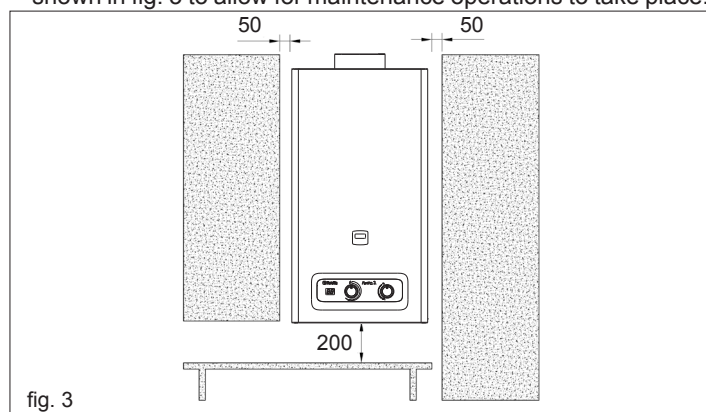

fig. 3
- It is vital to leave the minimal distances around the device as shown in fig. 3 to allow for maintenance operations to take place.
- The water heater must not be tightly placed in an enclosure or slot, it should have an adequate flow of air around it (fig. 3).